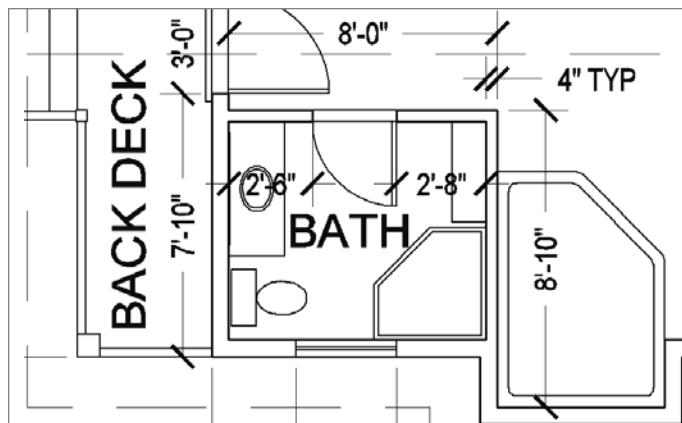

FIGURE 15.26 The zoomed-in view of the cabin showing the lineweights
3. Make a window that encloses the bathroom, hot tub, and a couple of the dimensions. You have to click and hold down the mouse button, drag open the window, and then release the button. The new view displays the lineweights you have set up (see Figure 15.26).